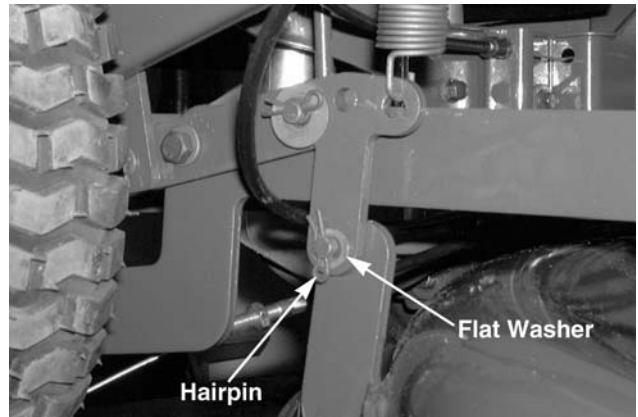

Figure 8-40.
7. Remove both small hairpin clips and flat washers that secure the rear deck support pins to the lower "T" links. See Figure 8-40.